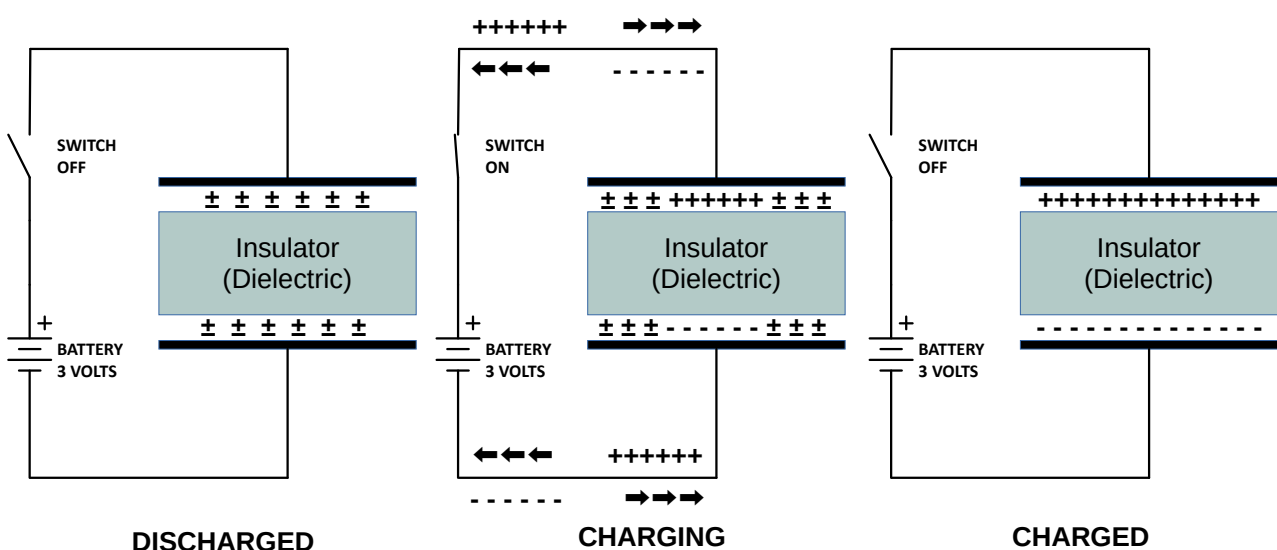

Figure 40: Charging a capacitor
14. Explain: A capacitor can be charged by momentarily connecting it to a battery as shown in Figure 40. When a capacitor is discharged, there is an even distribution of positive and negative charges on both plates of the capacitor. When a battery is connected, an electric current flows for a short time. It moves the positive charges to one plate and the negative charges to the other plate and then stops flowing. When the battery is disconnected the capacitor will remain charged (for a long time).